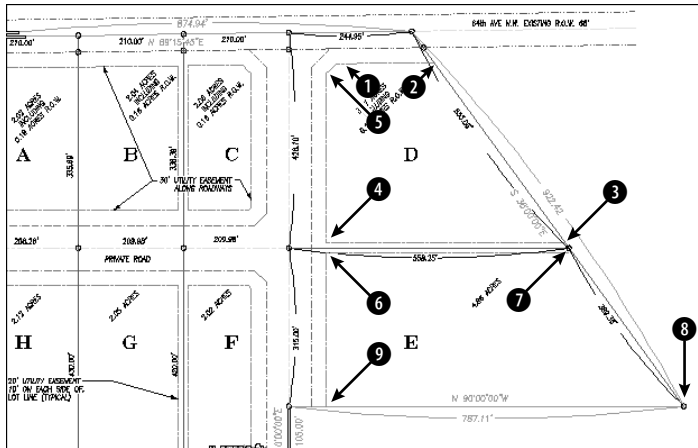

Figure 12-9: The AREA command can calculate the area of parcels D and E.
2. Use ZOOM Window to zoom in on the parcels of land labeled D and E, as shown in Figure 12-9. OSNAP should be on with a running object snap for the endpoint.
4. At the Specify first corner point or [Object/Add/Subtract]: prompt, right-click and choose Add to start Add mode. At the Specify first corner point or [Object/Subtract]: prompt, pick ① in Figure 12-9 by using the Endpoint running object snap. At the Specify next corner point or press ENTER for total (ADD mode): prompt, continue to pick ②, ③, ④, and ⑤. Press Enter. The command line lists the area and perimeter. (Your figures may be different if you picked different points.)
5. At the Specify first corner point or [Object/Subtract]: prompt, pick ⑥ in Figure 12-9. At the Specify next corner point or press ENTER for total (ADD mode): prompt, pick ⑦, ⑧, and ⑨. Press Enter to complete point selection. The command line reports the area and perimeter of the second area and adds the two areas together to give you the total area. Press Enter again to end the command.